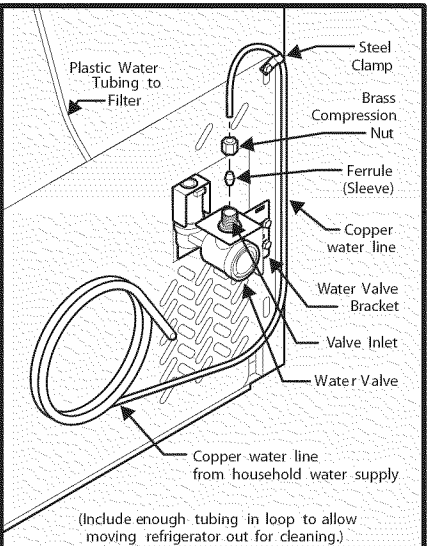

Figure 1
- If you use copper tubing - Slide brass compression nut, then ferrule (sleeve) onto water supply line. Push water supply line into water valve inlet as far as it will go (1/4 inch). Slide ferrule (sleeve) into valve inlet and finger tighten compression nut onto valve. Tighten another half turn with a wrench; DO NOT overtighten. See Figure 1.